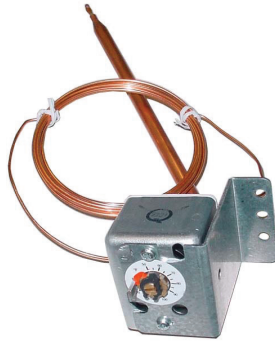
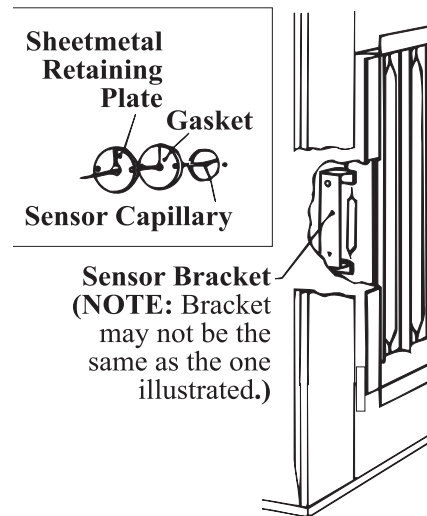

Figure 22. Unit-Mounted Ductstat (Option AG3)
Figure 24. Duct Temperature Sensor Location
- Depending on the option selection, the factory-installed sensor is either field-connected by capillary tubing to the unit-mounted ductstat (see Figure 22), which is factory-set at 70°F, or electrically-connected to a remote electronic temperature selector (see Figure 23), which is available with or without a display module.
The unit-mounted ductstat shown in Figure 22 has an adjustable range between 0°F and 100°F with a fixed differential of 3°F. Due to different cfm settings and outside air temperatures, the average downstream outlet temperature may not match the ductstat setting exactly. After the installation is complete, adjust the setpoint of the ductstat to achieve the desired average outlet air temperature.
- Figure 24 shows how to access the factory-installed sensor with either the unit-mounted ductstat (see Figure 22) or the remote temperature selector (see Figure 23).
- **Sensor location:** For the convenience of the installer, the duct temperature sensor is factory-installed in the cabinet leg (see Figure 24). Although the sensor has a mixing tube, at this distance from the discharge it does not receive a true mix, so the temperature read by the sensor will be slightly higher than the actual air entering the ductwork. The system will provide comfort level heat if the selector is set slightly higher to compensate for this reading. If a direct correlation of these two temperatures is required, move the duct sensor to a location in the ductwork about 10–12 feet (3–3.7 meters) from the furnace discharge.